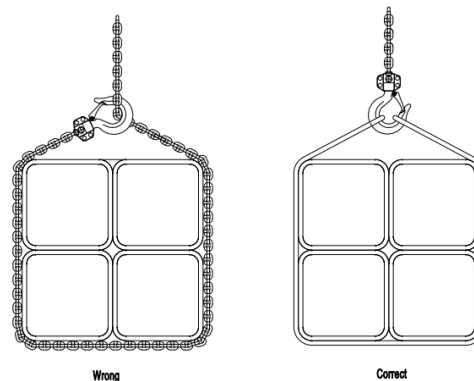

Figure 10
- When lifting loads, hook the load with slings. **Do not use the lever hoist chain as a sling** (Figure 10).
Carefully inspect the entire load chain. As illustrated in Figure 11, measure nine consecutive links with calipers to find the length. Compare the results with the table in Figure 10. Check every three feet and especially where excessive wear is indicated. Any load chain that shows noticeable deformation or heat influence must be replaced with a new one.